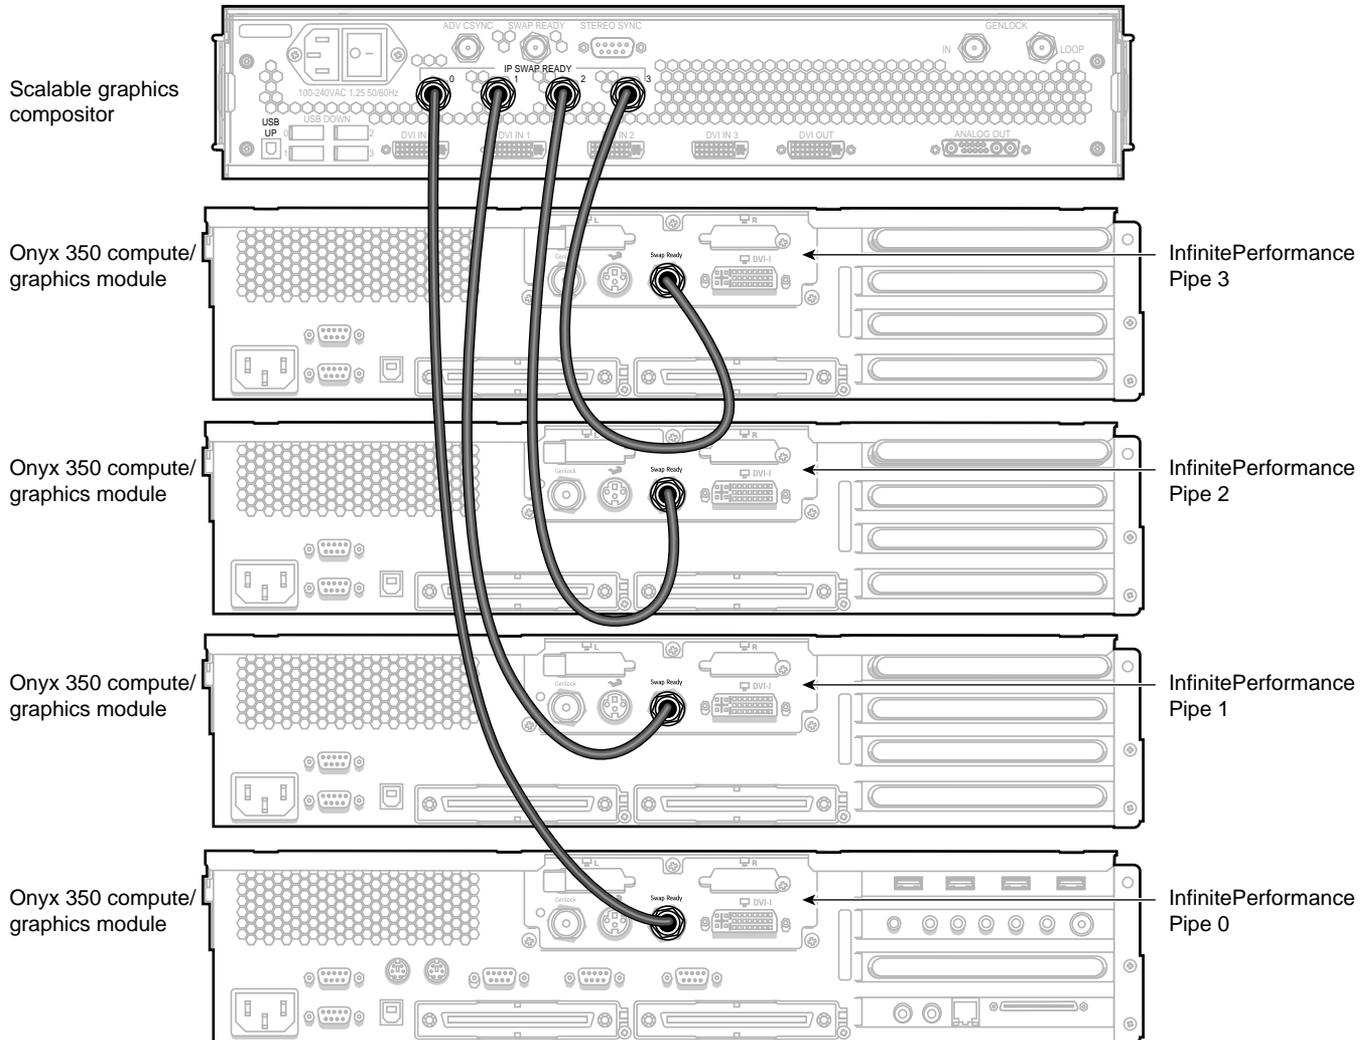

Figure 2-6 Connecting the Swap-Ready Connectors
- Using the 75-ohm BNC cables, connect the swap-ready connectors of the InfinitePerformance pipes to the swap-ready connectors on the compositor in the following order (as shown in Figure 2-6): pipe 0 to IP SWAP READY 0, pipe 1 to IP SWAP READY 1, pipe 2 to IP SWAP READY 2, and pipe 3 to IP SWAP READY 3.